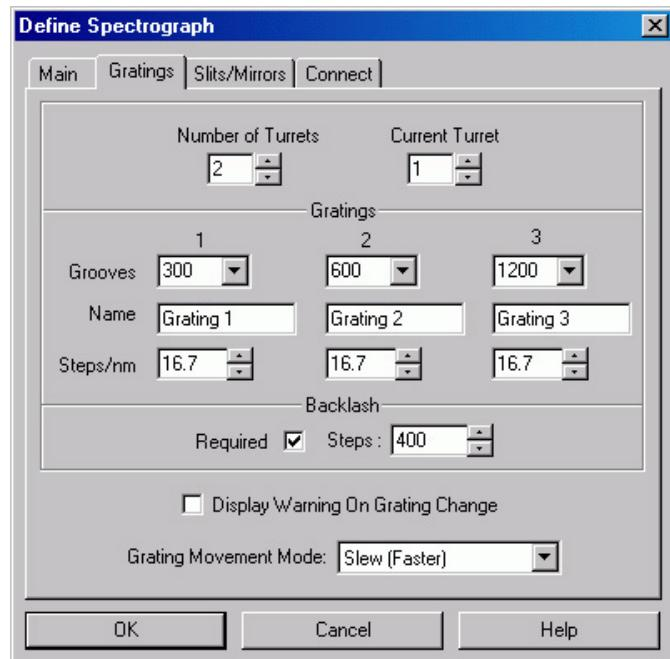

Figure 25. *Gratings* tab page
5. Set the connection preferences according to the requirements of your spectrograph. For Acton Spectrographs, use the settings shown in Figure 25.
The grating values are required for the dispersion calculation and for the selection of the active grating. Some spectrographs have interchangeable grating turrets, each able to mount up to 3 gratings. Where this is the case, the grating information may have to be separately specified for each turret that may be installed. These parameters are specified on the **Gratings** tab page (Figure 25) of the Define Spectrograph dialog. *In the case of automated Acton spectrographs, the grating information is automatically supplied.*